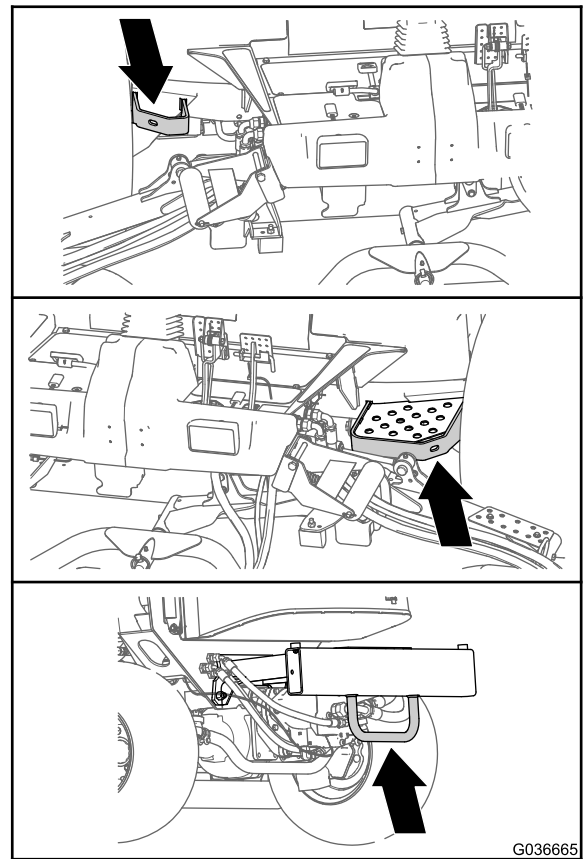

Figure 39
- On each side of the frame by the operator's platform (Figure 39)
- On the rear bumper (Figure 39)